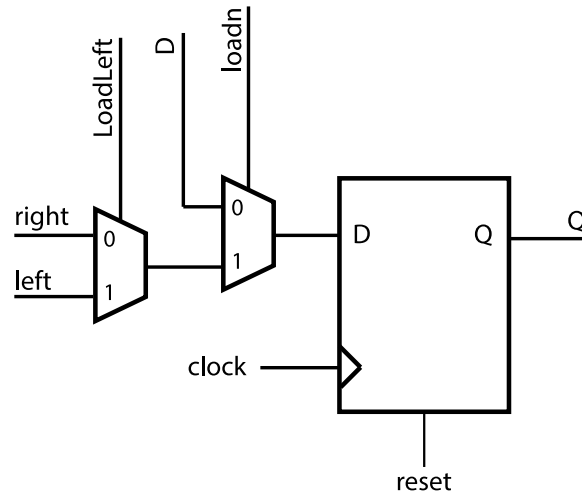
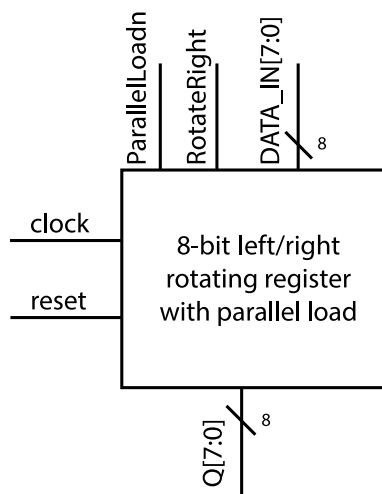

Figure 3: Sub-circuit for Part III.
Figure 4: Top-level circuit for Part III.
Figure 3 shows a positive-edge-triggered flip-flop with several multiplexers. In this part of the lab, you will use eight instances of the circuit in Figure 3 to design a left/right 8-bit rotating register with parallel load shown in Figure 4. The *LoadLeft* input of all eight instances of the circuit in Figure 3 should be tied to a single rotating register input *RotateRight* because when you want to rotate the bits right, you have to load the bit to the left. The *loadn* input of all eight instances should be tied to a single rotating register input *ParallelLoadn*. The *clock* input of all eight instances should be tied to a single rotating register input *clock*. Create an 8-bit-wide rotating register input *DATA_IN*, whose individual wires $DATA_IN_7$ to $DATA_IN_0$ are tied to the *D* input of each instance of the circuit in Figure 3. Likewise, create an 8-bit-wide rotating register output *Q*, whose individual wires Q_7 to Q_0 are tied to the *Q* output of each instance of the circuit in Figure 3.
The remaining connections between the eight instances of the circuit in Figure 3 should realize the following behaviour:
Figure 4 shows the inputs and outputs of the top-level left/right rotating register circuit with parallel load, which will contain eight instances of the circuit in Figure 3.
1. Draw a schematic for the 8-bit rotating register with parallel load. Your schematic should contain eight instances of the circuit in Figure 3. Label the signals on your schematic.
3. Write a Verilog module for the circuit in Figure 3.
4. Write a Verilog module for the rotating register with parallel load that instantiates eight instances of your Verilog module for Figure 3. This Verilog module should match with the schematic in your lab book. Use SW_{7-0} as the inputs $DATA_IN_{7-0}$ and SW_9 as a synchronous active high reset. Use KEY_1 as the *ParallelLoadn* input, KEY_2 as the *RotateRight* input and KEY_3 as the *ASRight* input. Use KEY_0 as the clock and SW_0 as a synchronous active high reset, but **read the important note below about switch bouncing**. The outputs Q_{7-0} should be displayed on the red LEDs ($LEDR_{7-0}$).